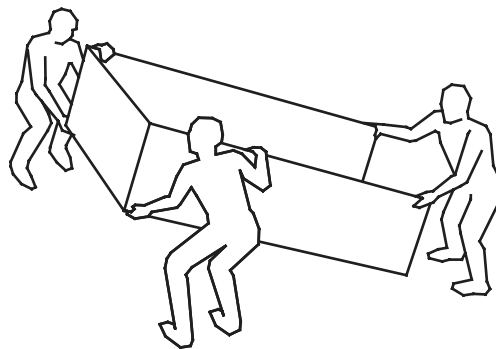

FIGURE 2-5
8. Use two or more people to lift PD 6500i to a vertical position and move to desired location. (See Figure 2-5)